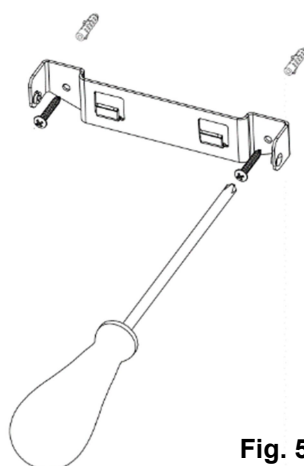

Fig. 5
- Install the mounting bracket onto the wall by using appropriately sized mounting screws and anchors. Ensure the screws and anchors used are suitable for the mounting surface and the surrounding environment. (Fig.5)